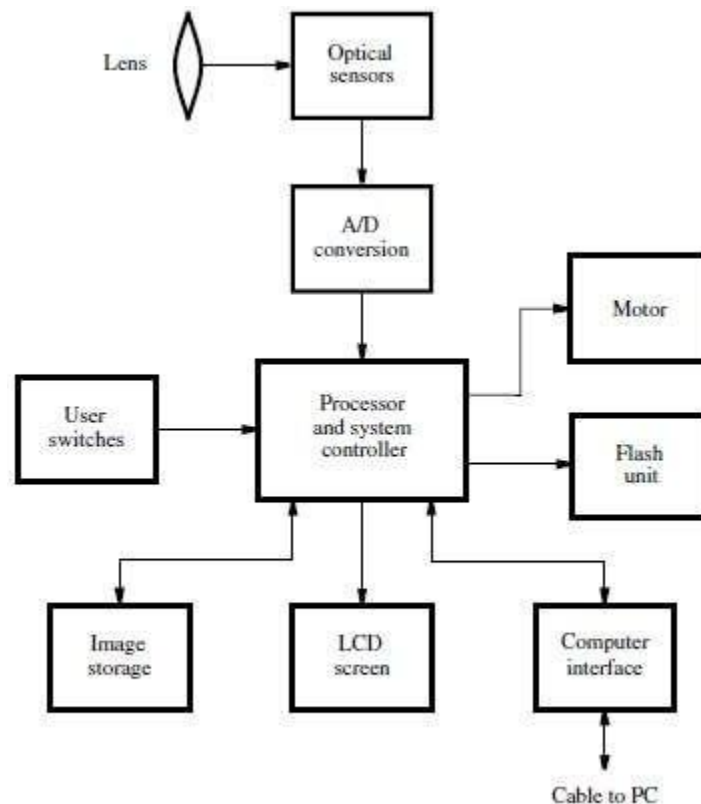

Figure 10.2 A simplified block diagram of a digital camera.
- An array of **Optical Sensors** is used to capture images (Figure 10.2).